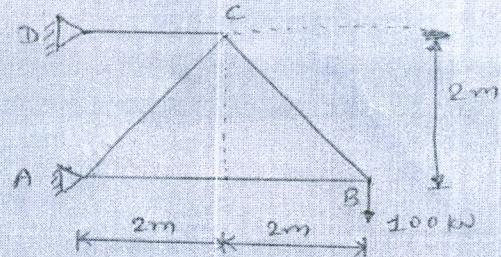

Figure 2
- (A) Determine the vertical deflection of joint C of the truss shown in fig.2 by unit load method. The cross sectional area of each member is 400 mm^2 . $E = 2 \times 10^5 \text{ N/mm}^2$. [5]